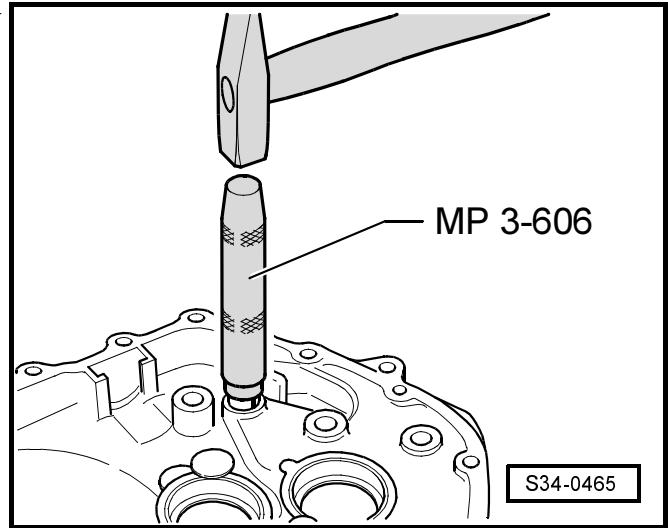

Fig. 7: Levering out the bushing with a screwdriver
- removing ⇒ Fig. 7 in **34-11** page 4